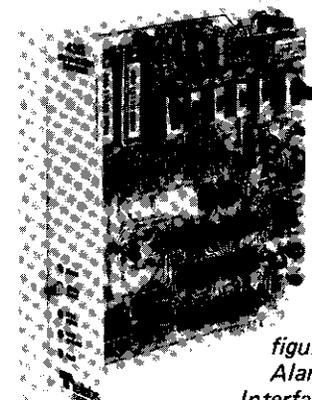

figure 2. 4313 Alarm Station Interface Module
1.04 The 4313 module (figure 2) is specifically designed to receive logic-compatible alarm signals transmitted from a 4311 module and to convert